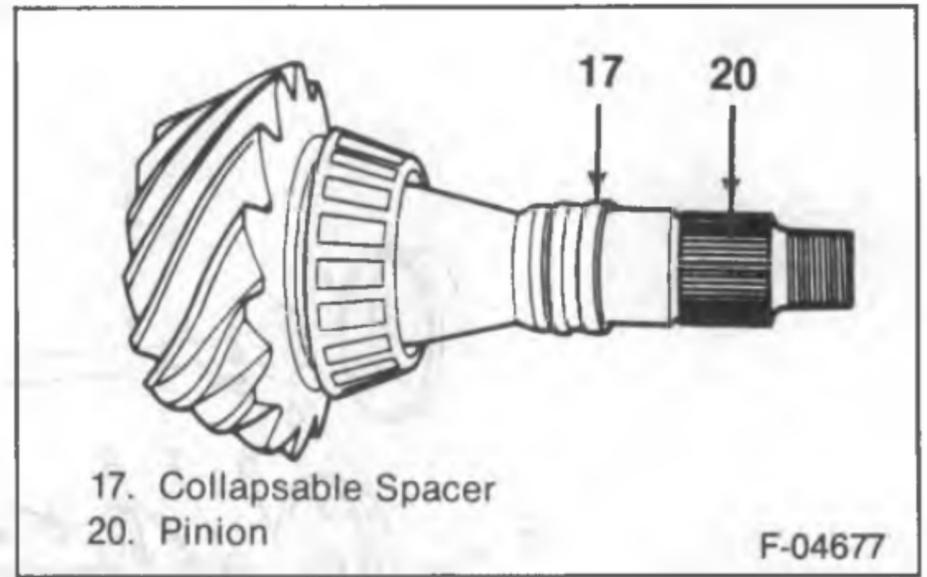
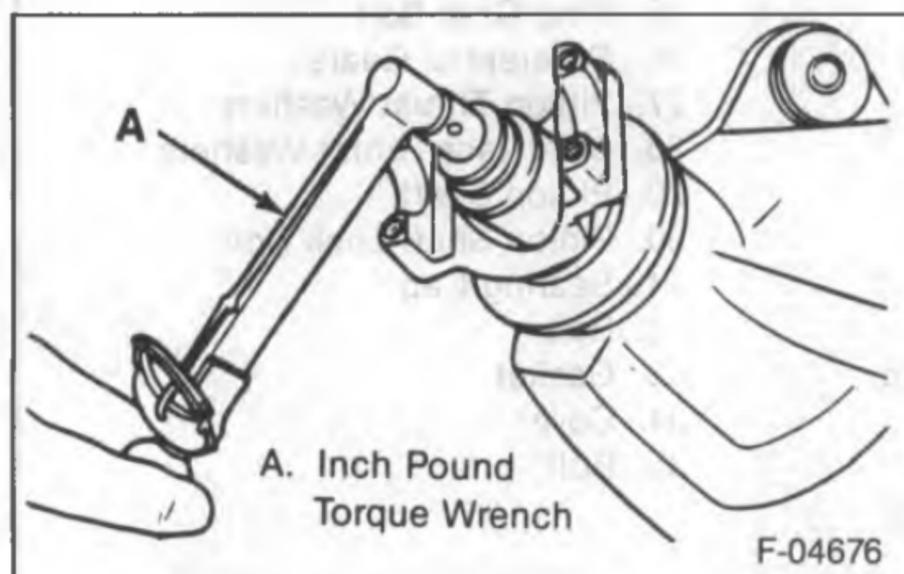
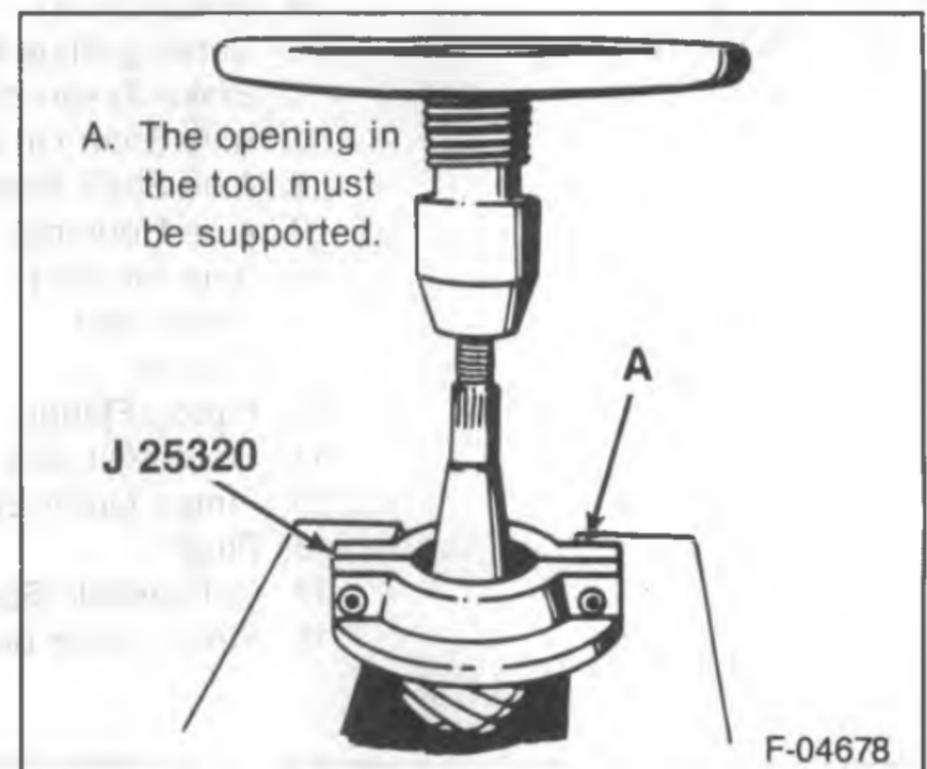

Figure 5—Pinion Collapsible Spacer
Figure 4—Checking Pinion Preload
Figure 6—Removing the Pinion Rear Bearing
- Drive pinion bearing preload (figure 4).
14. Pinion flange nut (11) and washer (12) using J 8614-01 to hold the pinion flange.
16. Pinion (20) from the axle housing.
- Replace the differential cover (34) with two bolts (35) to keep the pinion from falling to the floor.
- Remove the cover (34) and the pinion (20).
17. Collapsible spacer (17) from the pinion (figure 5).
18. Outer seal (14) and outer pinion bearing (15).
19. Inner bearing (18) and shim (19) from the pinion.
- Press the bearing off the pinion using J 25320 (figure 6).